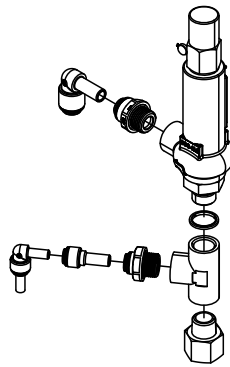

Fig. 11: Connect the screw fittings and seals to the pressure tank safety valve
1. Connect all fittings and seals to the safety valve as shown in Fig. 11.